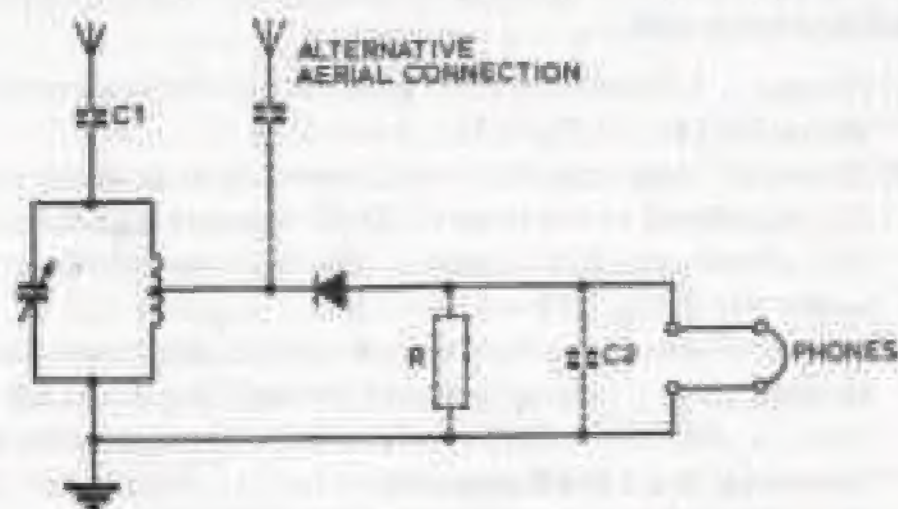

Fig. 3.5 Circuit 1. Circuit diagram of basic crystal set.
The wiring-up can be checked against the *circuit diagram* shown in Fig. 3.5 (ignoring the components shown with broken lines). The set should now be 'working'.
- (i) Connect a 1,000-pF capacitor across the headphone (earpiece) connections (C2 in Fig. 3.5).
- (ii) Instead of connecting the external aerial directly to the tuned circuit, connect one lead to a 220-pF capacitor, and the other end of the capacitor circuit to the 'hot' end of the tuned circuit (C1 in Fig. 3.5).
- (iv) Try connecting a 1.2-k resistor (or higher value) across the phone connection (R in Fig. 3.5). You may be using the wrong type of phones or earpiece, which do not provide a proper load or complete the circuit.